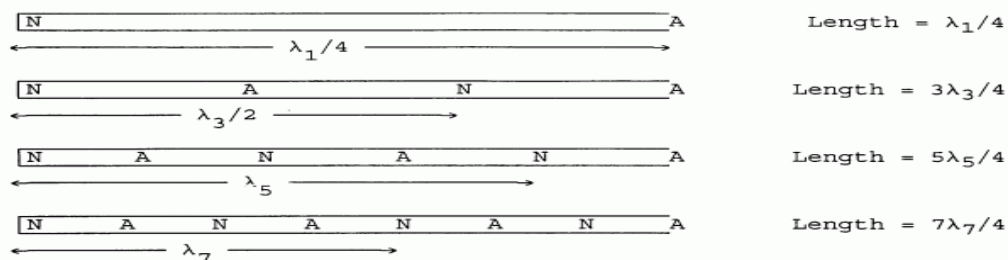

Figure 3. resonant wavelength of a tube of fixed length
3. Explain the reputation of sound in only some specific length (L).
5. Explain figure 3 and 4.